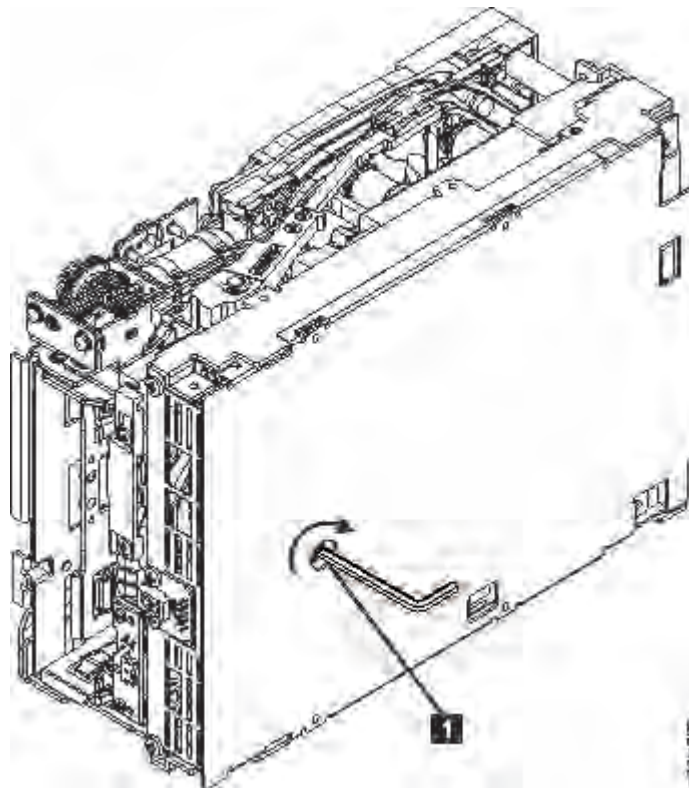

Figure 126. The hex wrench rewinds tape into cartridge
2. From the bottom of the drive, locate the access hole (1 in Figure 126 on page 257).
Note: Be sure to keep tension on the tape as the LBA is drawn into the cartridge by using a hex wrench as shown in Figure 126 on page 257.